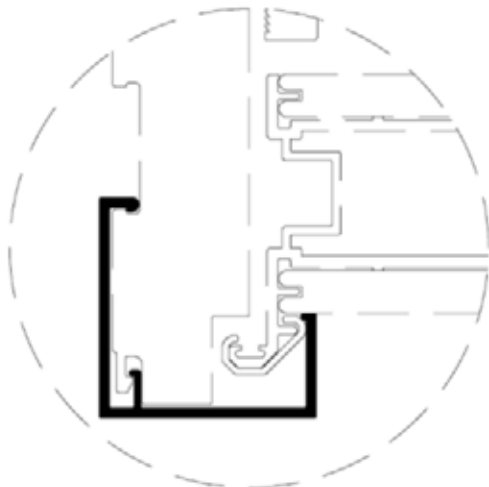

Figure 8
1. Prior to installing the pre-hung Single Door, locate and remove the shipping clip from the lock jamb (Figure 8).